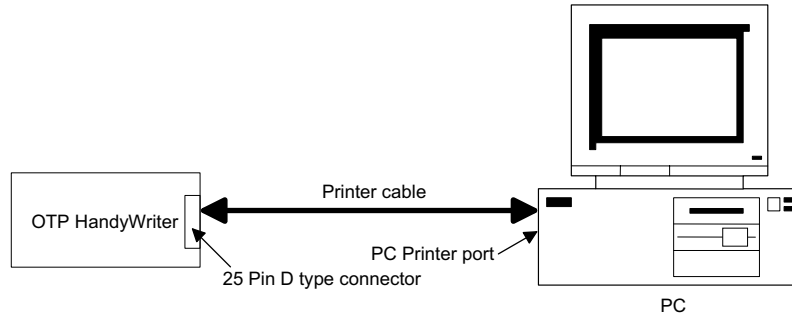
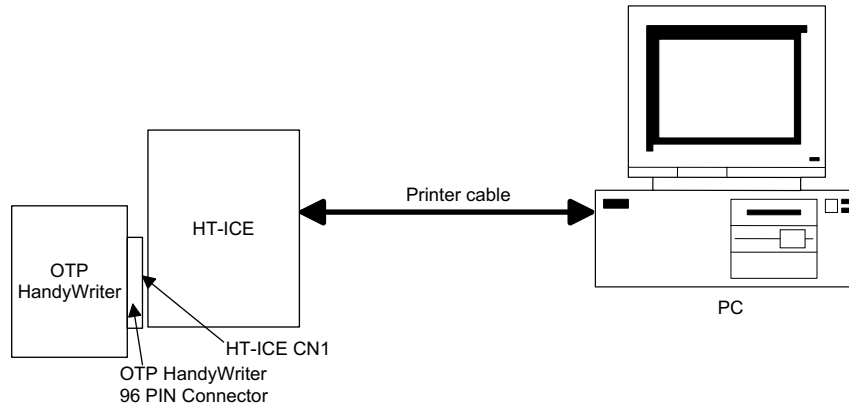

Figure 2
Figure 3
- To directly connect to a PC, use the printer cable to connect from the HandyWriter's 25 pin D-type connector to the printer port of the PC as shown in Figure 2. To connect via the HT-ICE, first connect the HandyWriter to the VME 96 pin socket CN1 on the HT-ICE then connect the HT-ICE to the PC's printer port using the printer cable as shown in Figure 3.